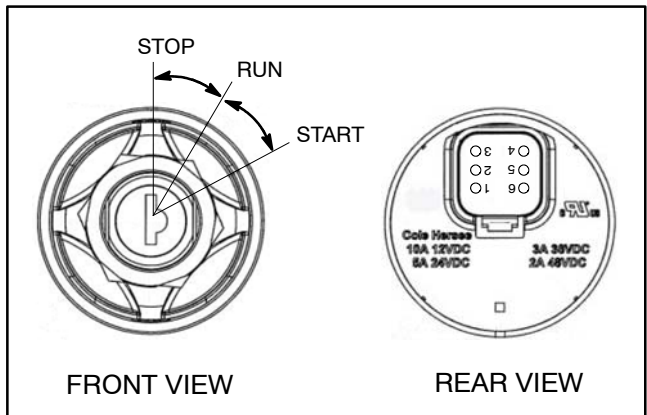

Figure 26
The ignition (key) switch is located on the control panel and has three (3) positions: STOP, RUN and START (Fig. 26). The Toro Electronic Controller (TEC) monitors the operation of the ignition switch.
5. The ignition switch terminals are identified in Figure 26 and the circuitry of the switch is shown in the chart in Figure 27. With the use of a multimeter (ohms setting), the switch functions can be tested to determine whether continuity exists between the various terminals for each switch position. Verify continuity between switch terminals.